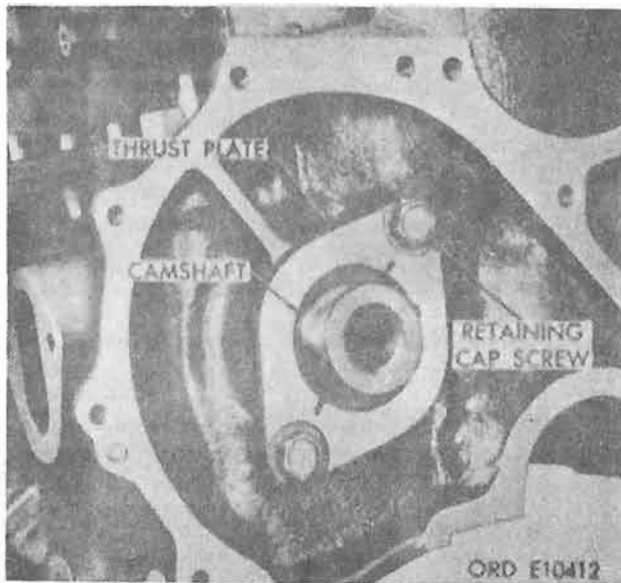

Figure 4-118. Camshaft thrust plate.
b. *Camshaft Thrust Plate.* Remove two hex-head capscrews and washer assemblies securing camshaft thrust plate to cylinder block (fig. 4-118).